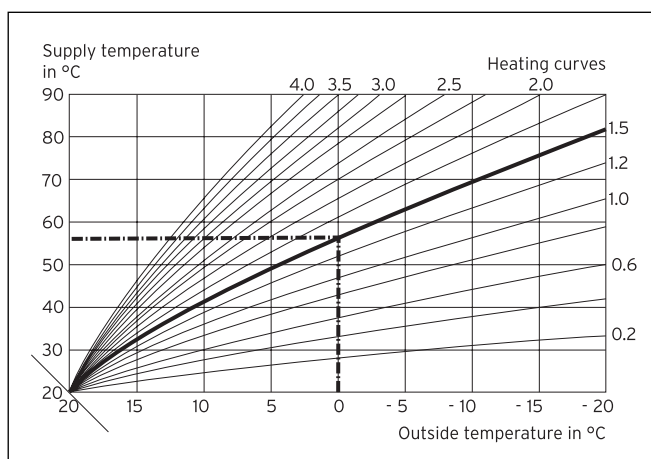

Fig. 4.15 Diagram with heating curves for a target room temperature of 20 °C
The relationship between the outside temperature and the required heating feed temperature is represented in a diagram having various different heating curves (see Fig. 4.15). Each heating curve (from 0.2 - 4.0) gives a value for the heating flow temperature (vertical diagram axis) for the individual outside temperature (horizontal diagram axis).
- ⇒ Turn the right-hand dial until the desired value is displayed (values from 0.2 to 4.0 are possible, see Fig. 4.15).